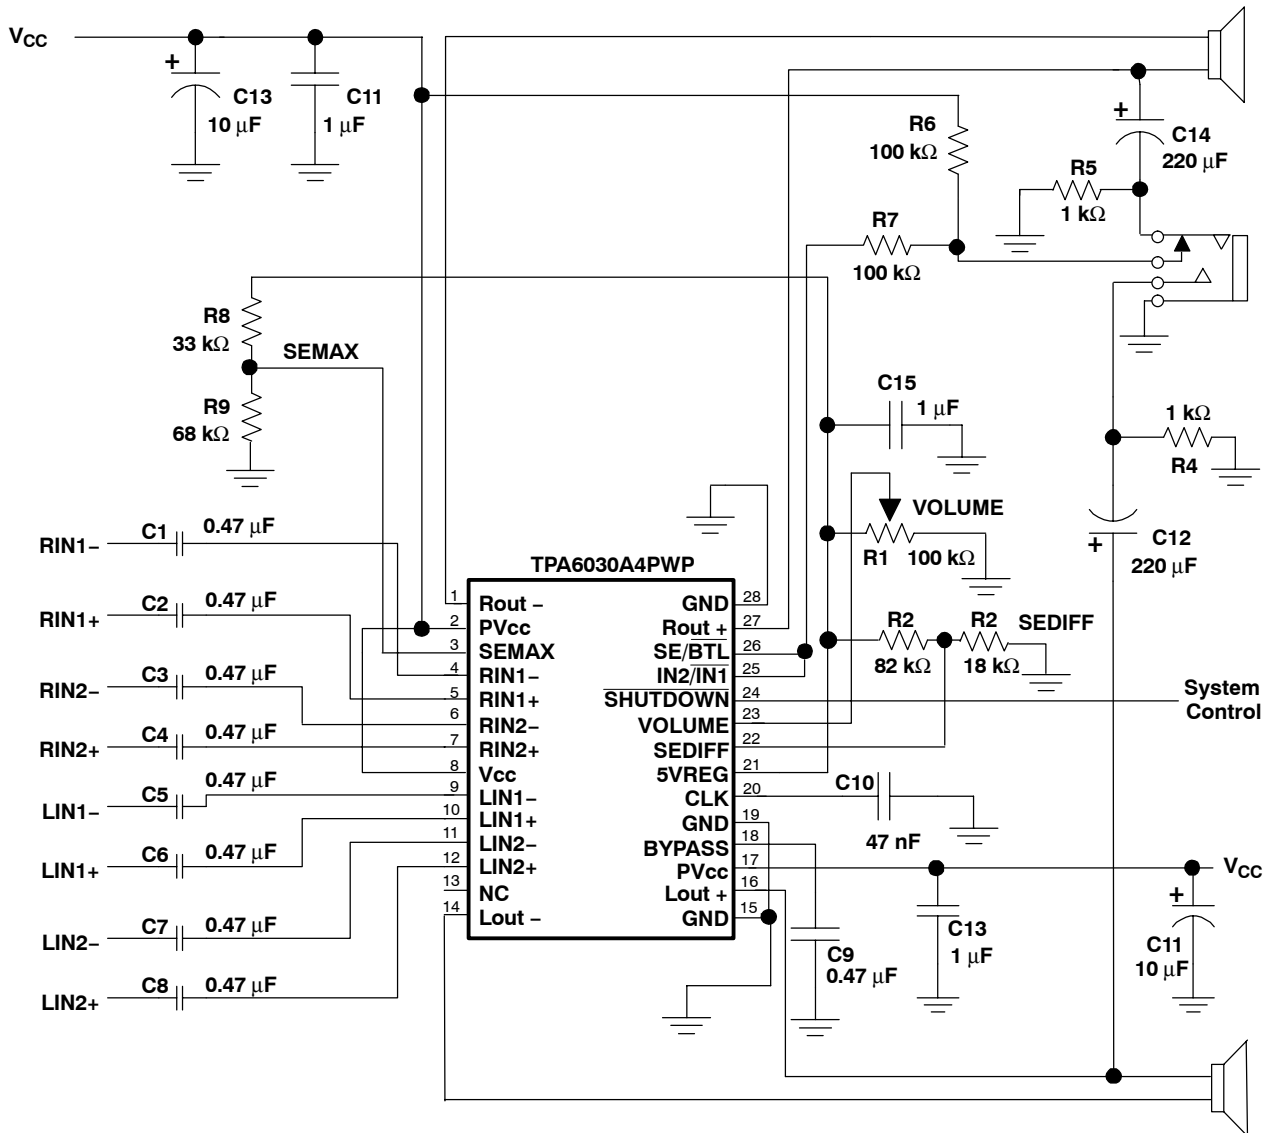

Figure 22. Typical Application Circuit for an LCD Monitor
The circuit shown in Figure 22 automatically switches between headphone outputs and speaker outputs when a headphone plug is inserted or removed from the headphone jack. Additionally, this circuit uses resistor divider networks to limit the headphone volume. Resistors R8 and R9 form a divider network that applies 67% of 5VREF to the SEMAX pin, which results in a maximum output of 7.2 dB. Resistors R2 and R3 form a divider network that applies 18% of 5VREF to the SEDIFF pin.
Using a readily available 1/8-in. (3,5 mm) stereo headphone jack, the control switch is closed when no plug is inserted. When closed, the parallel combination of R5 and R7 (see Figure 22) pulls the SE/BTL pin low⁽¹⁾, causing the device to operate in BTL mode. When a plug is inserted, the 1-k Ω resistor is disconnected and the SE/BTL input is pulled high⁽¹⁾. When the input goes high⁽¹⁾, the negative output amplifiers go into a state of high impedance, essentially open circuiting the speaker. The positive output amplifiers then drive through the output capacitor (CO) into the headphone jack.
In some applications, it may be desirable to have one input specifically for BTL operation and one input specifically for SE operation. This is accomplished by tying the SE/BTL and IN2/IN1 pins together and connecting them to a common control voltage. An example of this type of configuration can be found in Figure 22. The two pins are tied together and are connected to the resistor divider network. That network is connected to the stereo headphone jack, and is closed when no plug is inserted. This pulls both the IN2/IN1 and SE/BTL pins low, causing the amplifier to go into BTL mode using the IN1 (RIN1 and LIN1) inputs. Should a headphone plug be inserted into the headphone jack, both inputs would be pulled high, and the amplifier would be in SE mode using the IN2 inputs.